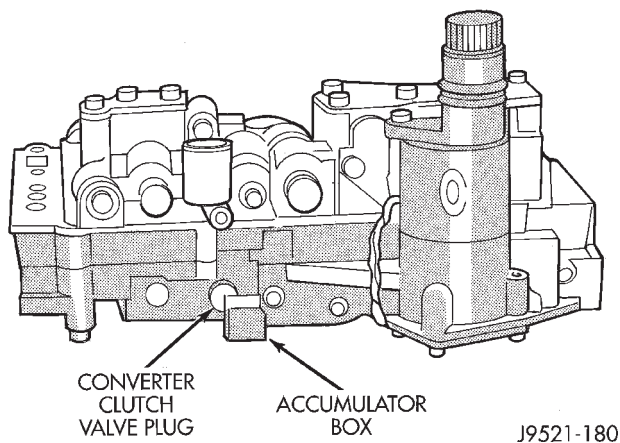

Fig. 111 Seating 3-4 Accumulator On Lower Housing
(4) Swing accumulator housing upward over valve springs and plug.
(5) Hold accumulator housing firmly in place and install remaining two attaching screws. Be sure springs and clutch valve plug are properly seated (Fig. 111).